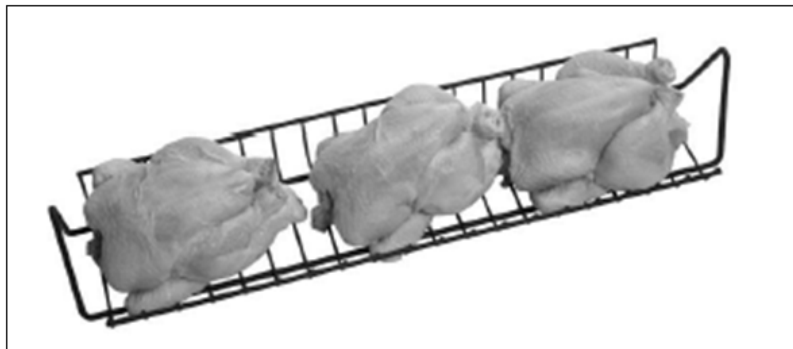

Figure 15 (type for TDR 7 / TDR 8 is shown)
- With the TDR 7 and TDR 8 you must attach the meat baskets to the appropriate pins (see Figure 9 and Figure 15).